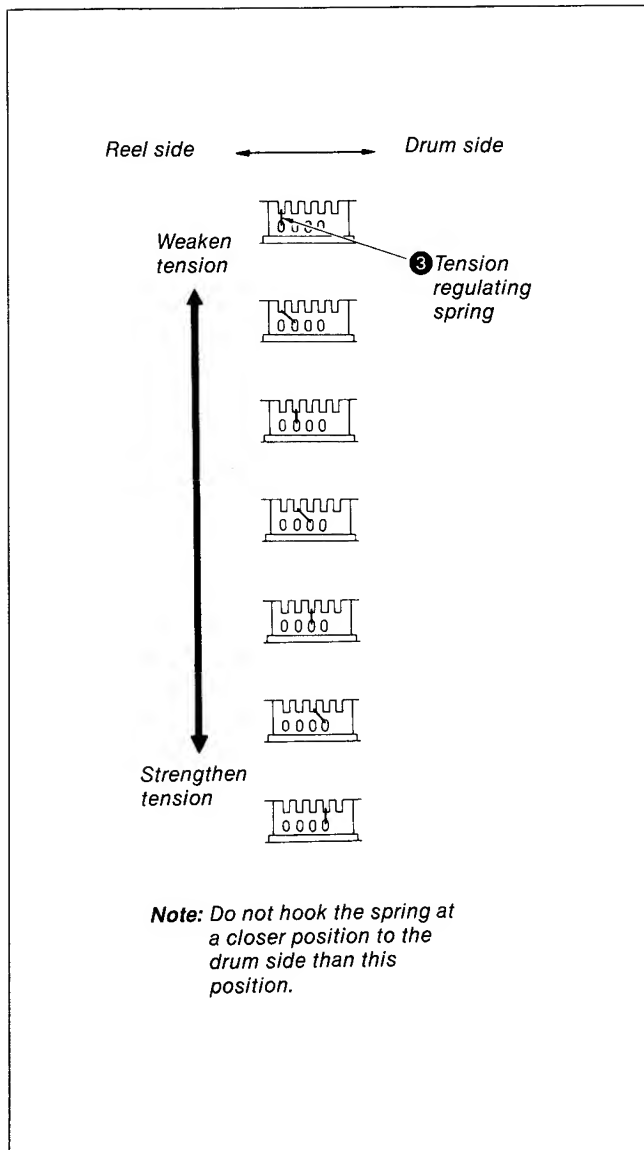

Fig. 8-44.
- 2) Set the tension measuring exclusive reel (Ref. No. J-7) ①.
- 3) Measure tape tension of the outgoing side by using dial tension gauge (Ref. No. J-6) ②. At this point, the measurement should be conducted by pulling the tape at the speed of 14mm/sec. (See Fig. 8-44)